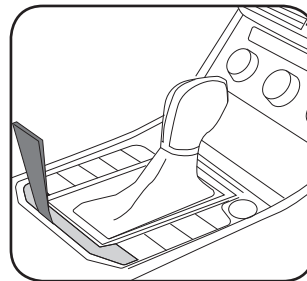

Fig. 1.12
12. Using a small panel tool, remove the trim panel located at the base of the shifter. (Fig. 1.12)